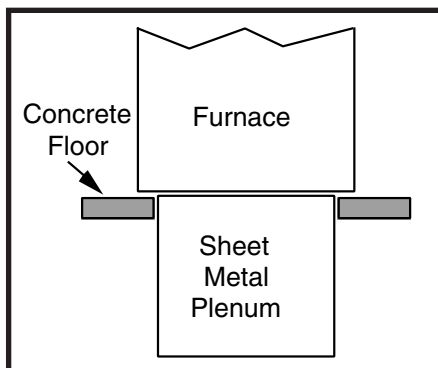

Figure 15. Furnace on a Concrete Slab
2. Position the plenum and the furnace as shown in Figure 15.